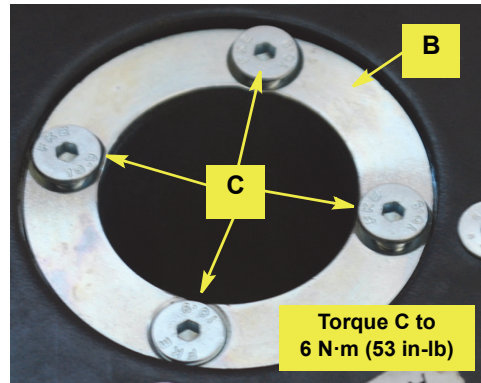

Figure 1b: Securing the shaft adapter
- b. Using the four countersunk screws **C**, secure the shaft adapter **B** in steering wheel **A**. Torque the screws to **6 N·m (53 in-lb)** (Figure 1b).